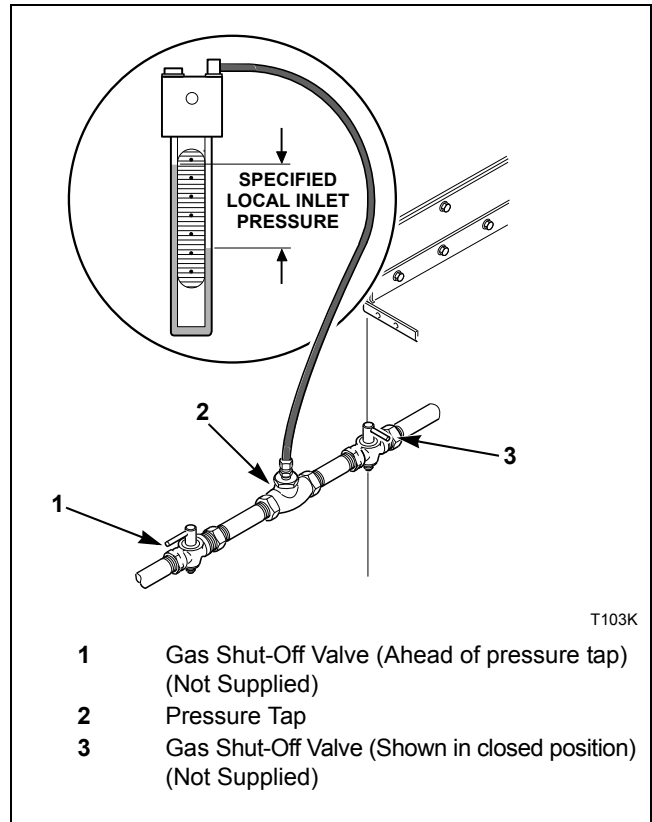

Figure 9
1. Disconnect electrical power from tumble dryer. Close gas shut-off valve to tumble dryer. Refer to *Figure 9*.